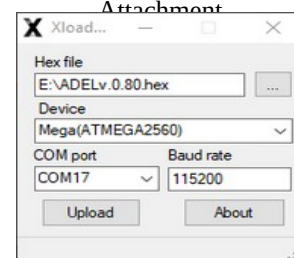

Figure 4: Xloader Configuration
10. Launch the Xloader updater program and configure Xloader according to Figure 4.